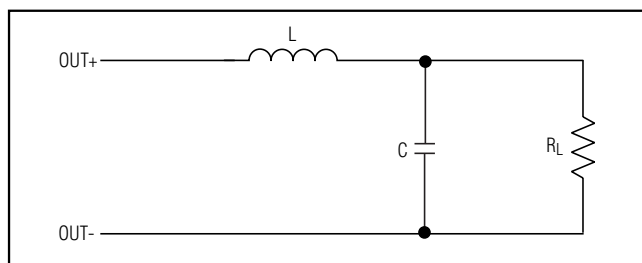

Figure 4a. Single-Ended 2-Pole Filter
• Single Ended 2-Pole Filter (Figure 4a)